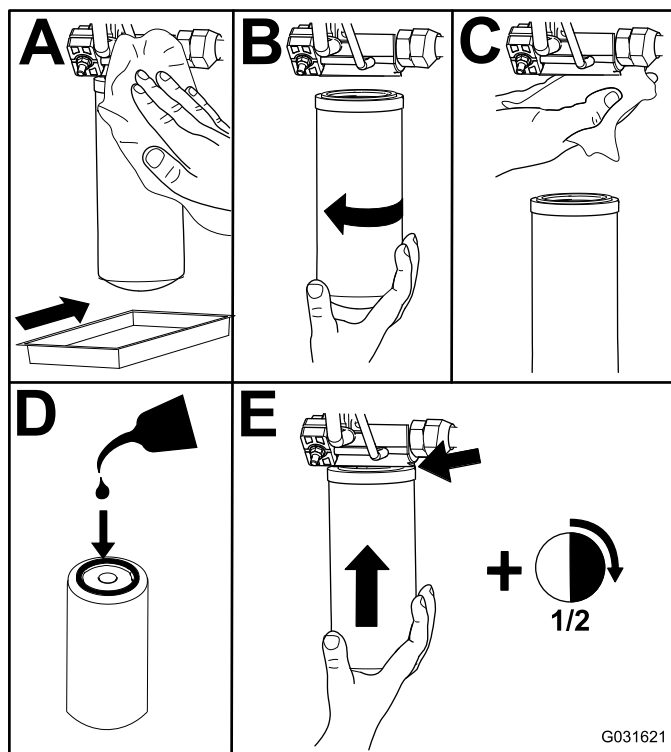

Figure 84
2. Replace the hydraulic filters (Figure 84).